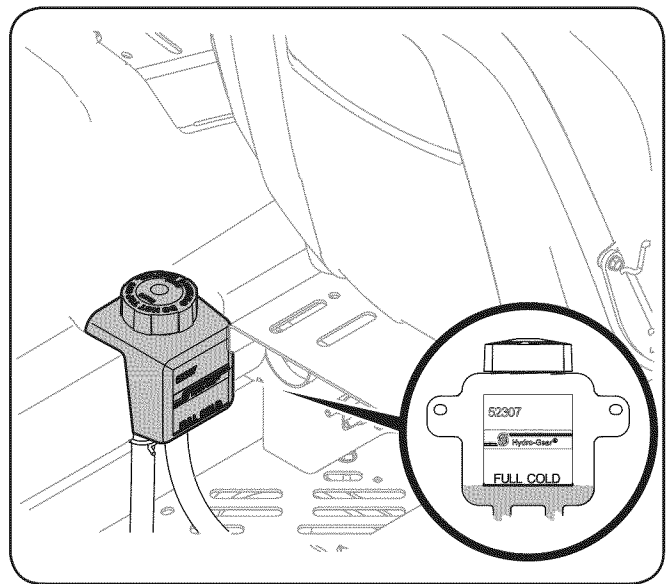

Figure 27
1. Pivot the operator's seat forward and clean the reservoir cap and the area around the cap to prevent debris from contaminating the transmission oil. See Figure 27.
2. Turn the reservoir cap counterclockwise to re-move, then check the oil level in the reservoir. Oil should be visible at the bottom of the cup, but the oil level must NOT be above the "FULL COLD" line. See Figure 27. **DO NOT FILL THE RESERVOIR.**